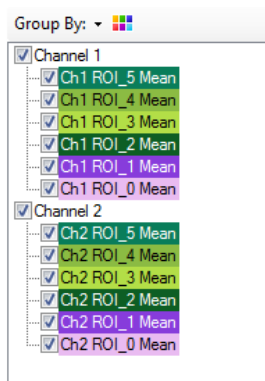

Figure 44: ROIs grouped by channels in the *Online Analysis Results* window
- a) **Group by:** Drop down list allows changing the way the ROIs are grouped, e.g by channel (Figure 44) or function.